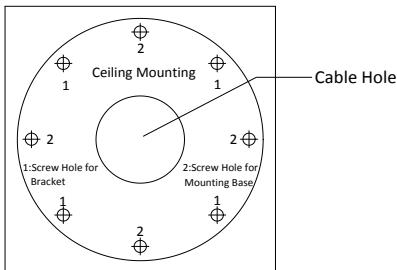

Figure 2-3 Drill Template
1. Paste the drill template to desired mounting place. Drill the screw hole and cable hole according to the supplied drill template (shown as Figure 2-3).